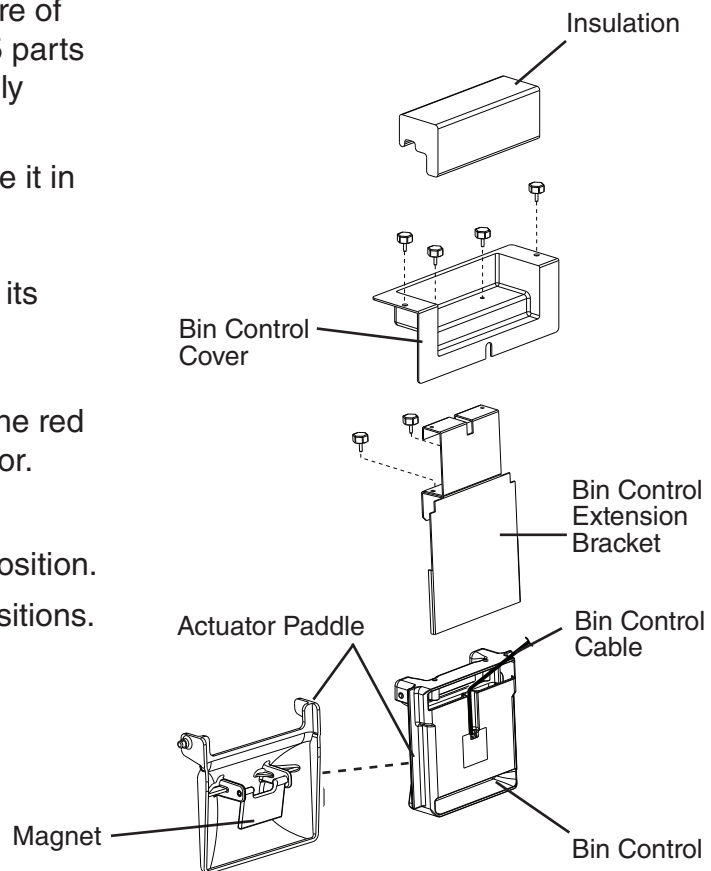

Fig. 3
- 6) Remove BC from the extension bracket. See Fig. 3.